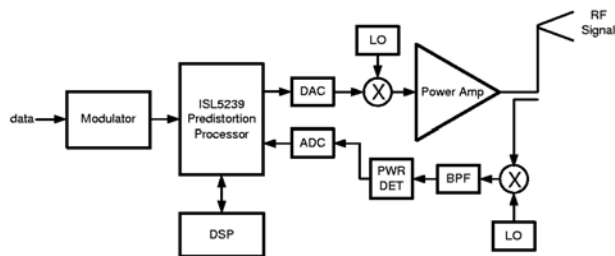

FIGURE 1. SYSTEM OVERVIEW
The ISL5239 is a full-featured digital pre-distortion part featuring a high-performance lookup-table based pre-distortion (PD) processing unit. It includes an interpolator for upsampling and supports all varieties of upconversion architectures with a programmable correction filter for equalization including both $\sin(x)/x$ correction and removal of frequency response imbalance between quadrature paths. It also features gain, phase, and offset compensation for direct upconversion, digital IF output for heterodyning, and input/output capture memories with internal/external triggering capabilities to facilitate closedloop feedback processing. System implementation is typically as shown in Figure 1. Although the power detect feedback is shown with one Analog to Digital Converter (ADC), coherently demodulated feedback signals LO configurations with 1 or 2 ADC's are also supported.